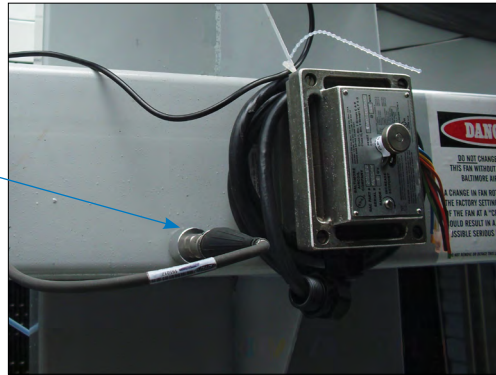

Figure 10. Accelerometer Location - Belt Drive
- Attach the accelerometer (provided by others) onto the box beam as shown in **Figure 10**. The accelerometer should be located away from the center of the web of the box beam, such that the center line of the accelerometer is about 1 inch from the upper or lower edge, as shown.